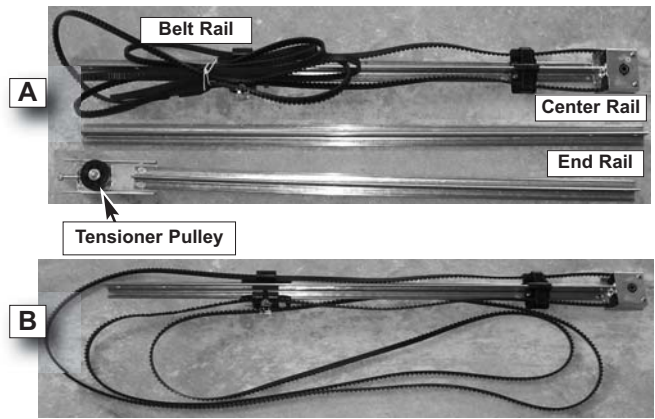

FIG. 1-2 Split Rail sections.
- Remove the two rail sections that are not connected to the chain and place them on floor (Fig. 1-2, A).
- Carefully remove the third rail section with chain and plastic sleeve. Place rail section on floor and extend chain straight out (Fig. 1-2, B). Chain and rail should extend approximately 7 feet.
- Remove the two rail sections that are not connected to the belt and place them on floor (Fig. 1-2, A).
- Carefully remove the third rail section with belt. Place rail section on floor, remove ties on belt and extend belt straight out (Fig. 1-2, B). Avoid twists and kinks in the belt by careful handling and keeping belt flat on the floor. Belt and rail should extend approximately 7 feet.